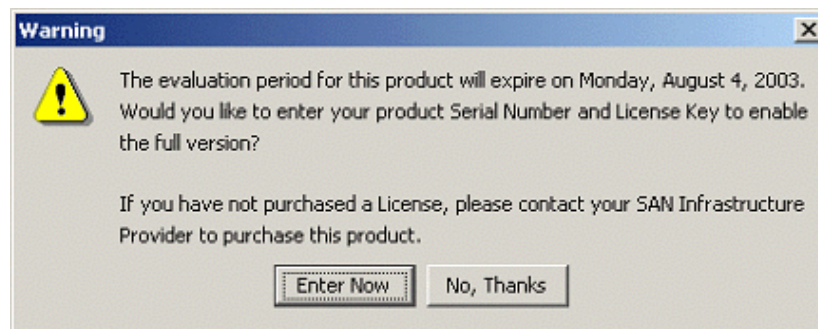

Figure 4: Fabric Manager Evaluation Installation Version Warning
Every time you launch Fabric Manager, a warning message is displayed, notifying you when the evaluation version expires and giving you the option to register Fabric Manager or continue with the evaluation version (see Figure 4).
- Click **Enter Now** from the warning message that is displayed when you launch Fabric Manager every time during the 60 day evaluation period (see Figure 4). Enter your serial number and license key.